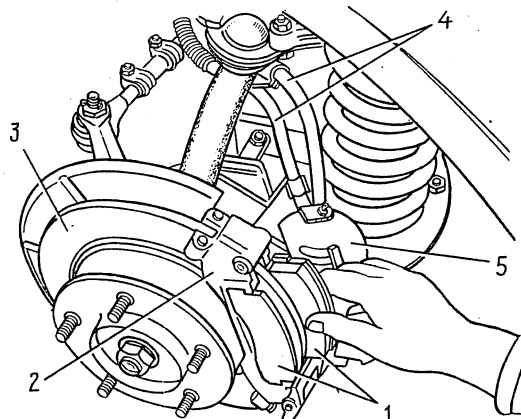

Fig.6-17. Replacing the Brake Shoes:
- uncotter the axle of the upper hold-down lever, take out the axle and remove the lever; take down the caliper assembly and pull the worn shoes from the slots of the guide (Fig.6-17);